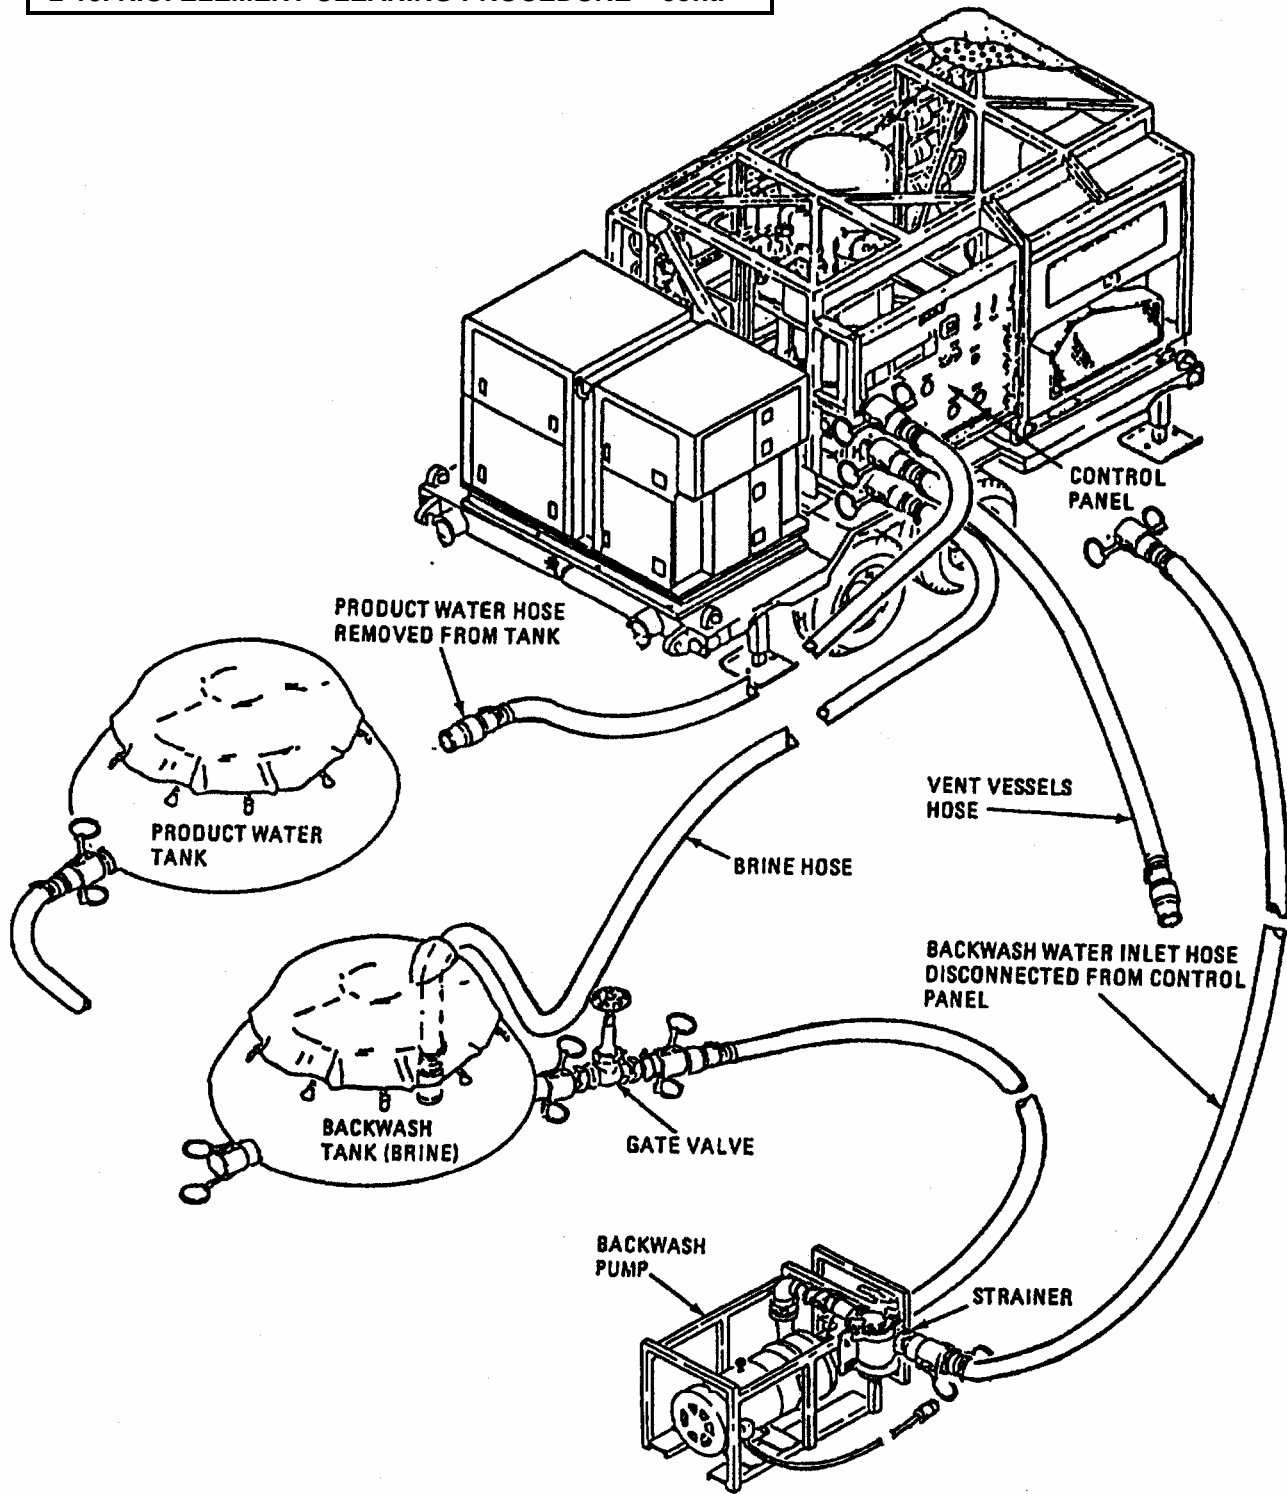

Figure 2-67. Lowering Water Level in Backwash Tank
- (2) Disconnect backwash water inlet hose from control panel and place down stream at least 25 yards from raw water inlet (figure 2-67).
- (3) Open brine tank gate valve.
- (6) Close brine tank gate valve (figure 2-67).